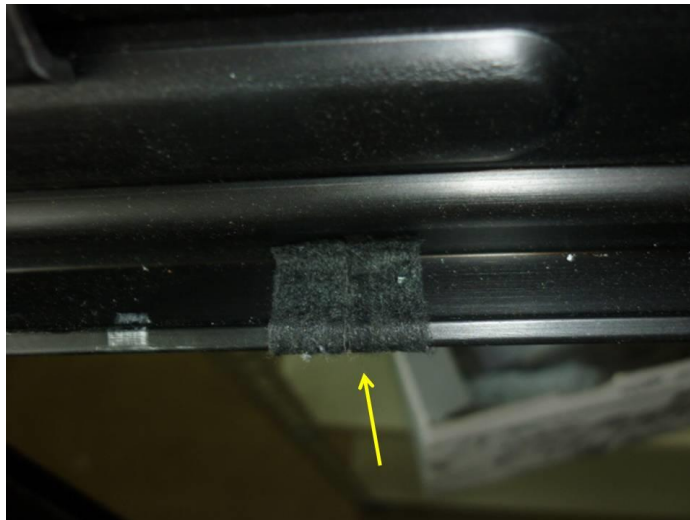

Figure 4. Application area on sunroof frame area of clip engagement.
5. Apply webbing adhesive tape to the sunroof frame lip at each clipping point (Figure 4).